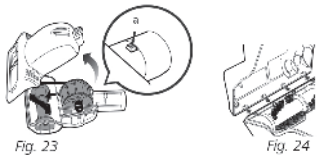

Fig. 23
- 1 Slide the locking latch (a) forward and gently tilt brush housing upward to remove. (Fig. 23)